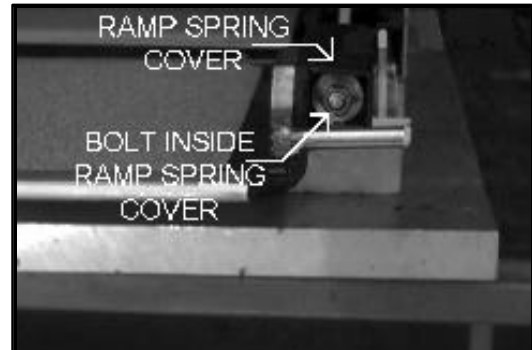

FIGURE 4-11: RAMP SPRING BOLT
- b. Refer to **Figure 4-11**. Loosen two bolts inside ramp spring covers, (only right side shown), to relieve spring tension.